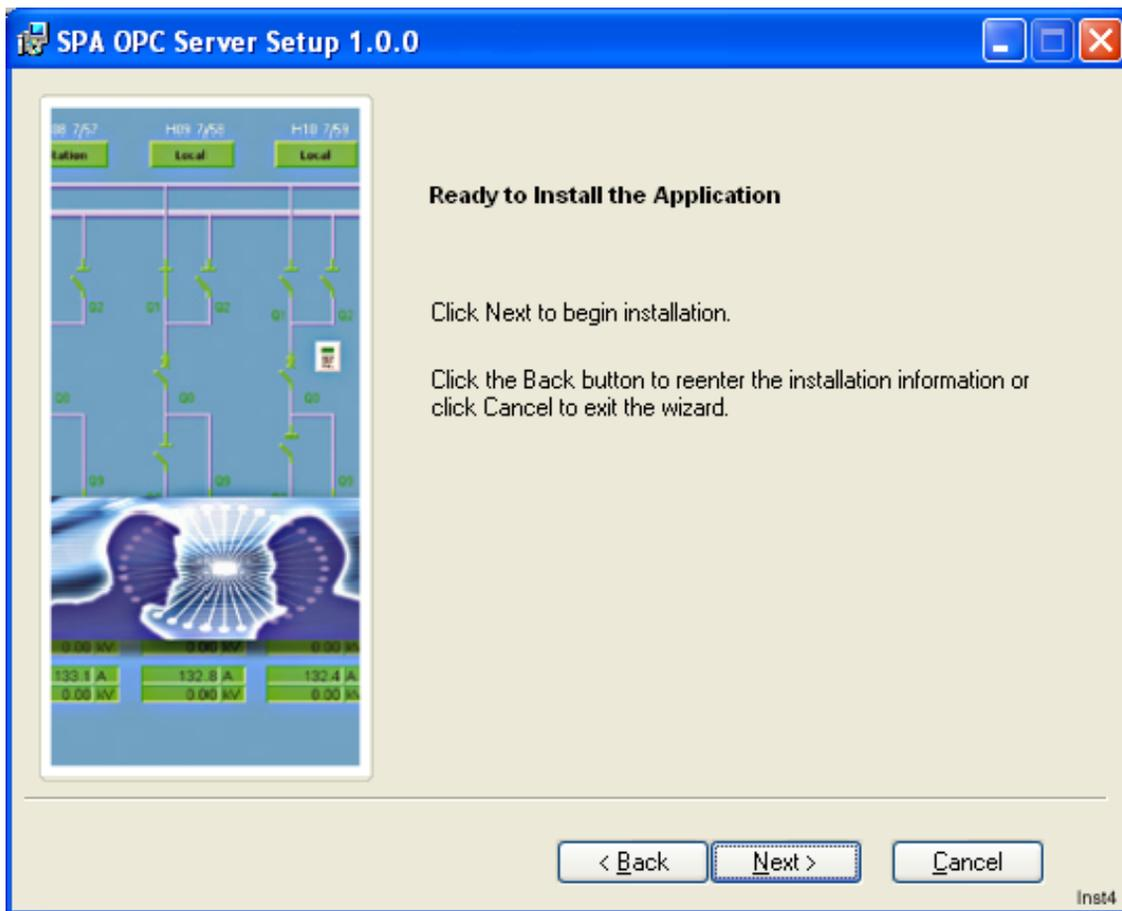

Figure 2-4: Starting the installation
4. The application is now ready to start installing the SPA OPC Server. Click **Next** to continue or **Back** to reenter the installation information, see Figure 2-4.